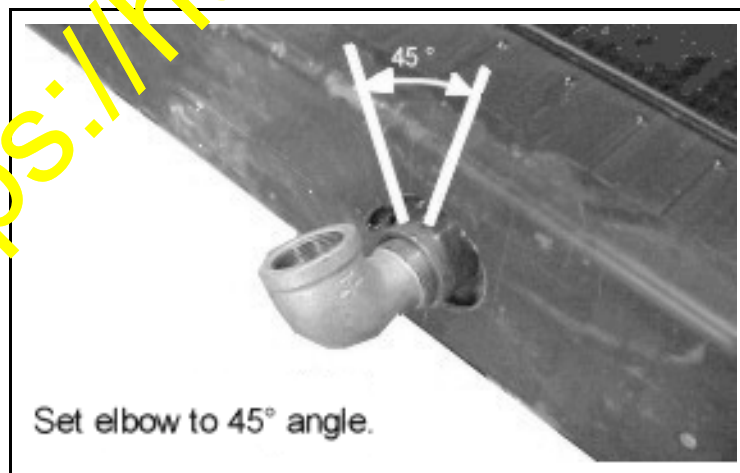

Figure 8 Street Elbow Installation
7. As shown in Figure 8 and using thread sealant, install 90 degree street elbow into the coupling half toward the left front of the machine at a 45 degree angle.